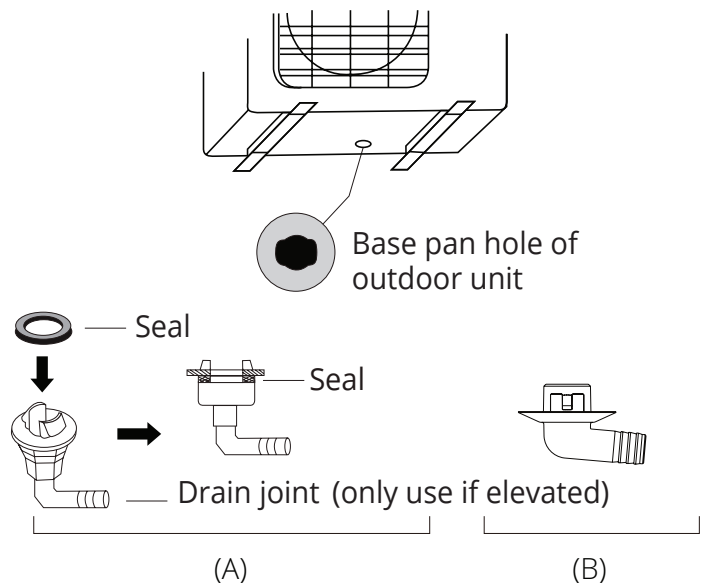

Fig. 4.4
**If the drain joint comes with a rubber seal (see Fig. 4.4 - A), do the following:**
**If the drain joint does not come with a rubber seal (see Fig. 4.4 - B), do the following:**